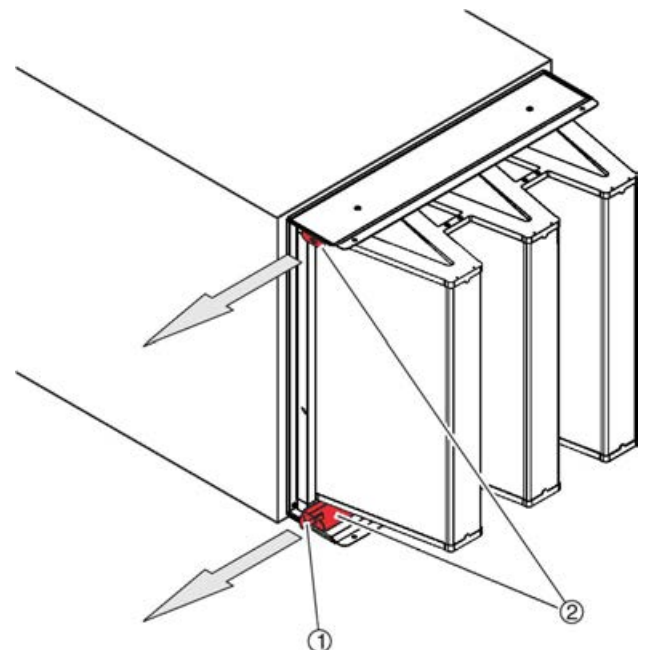

Fig. 24: Releasing the clamping rails
4. ▶ Use the special key (Fig. 24 /1) to pull out the clamping rails (Fig. 24 /2) as far as they will go.